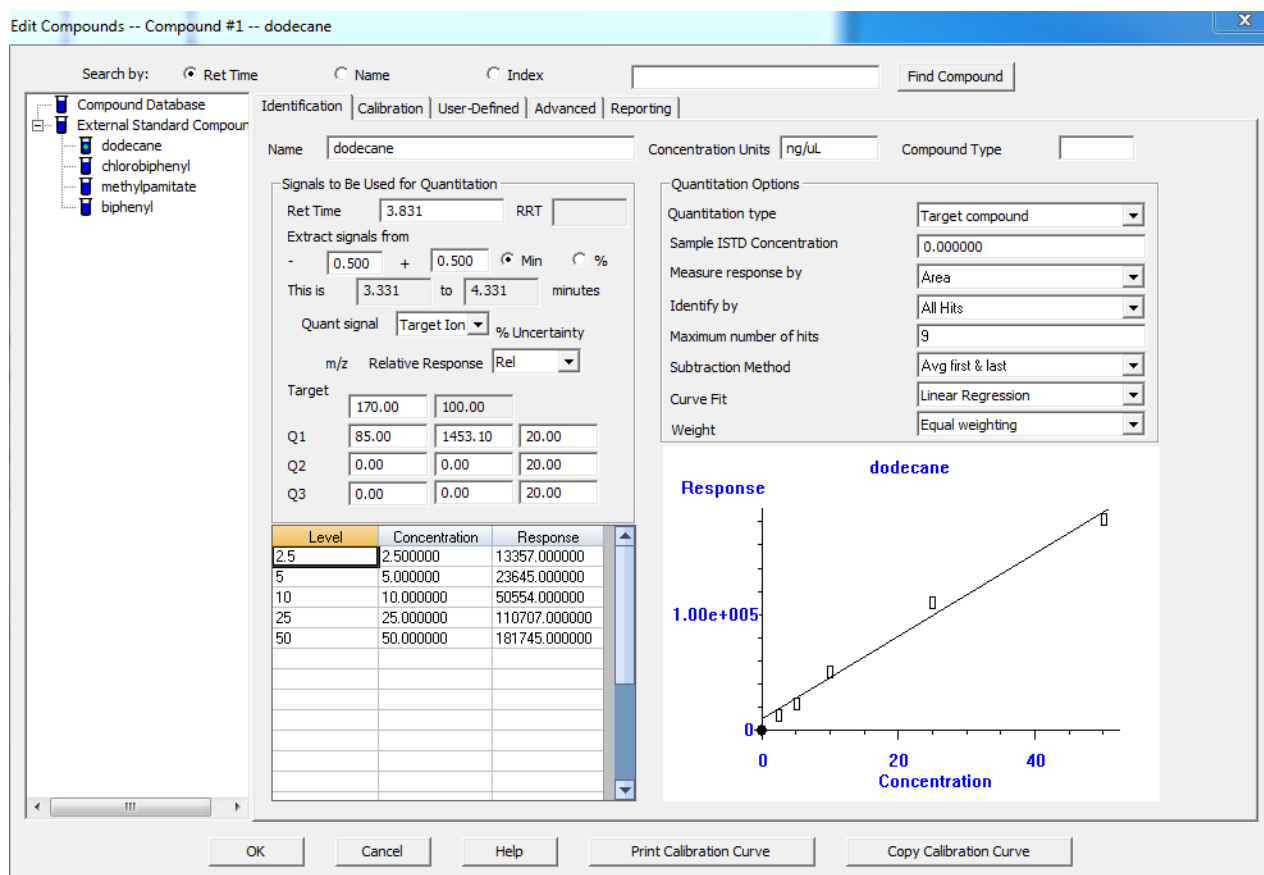

Figure 45 The completed quant database
- 9 Continue with the above steps under “Add calibrator levels 5, 10, 25, and 50 to the calibration curve” until all concentration levels are added. The completed calibration curve is shown in Figure 45.